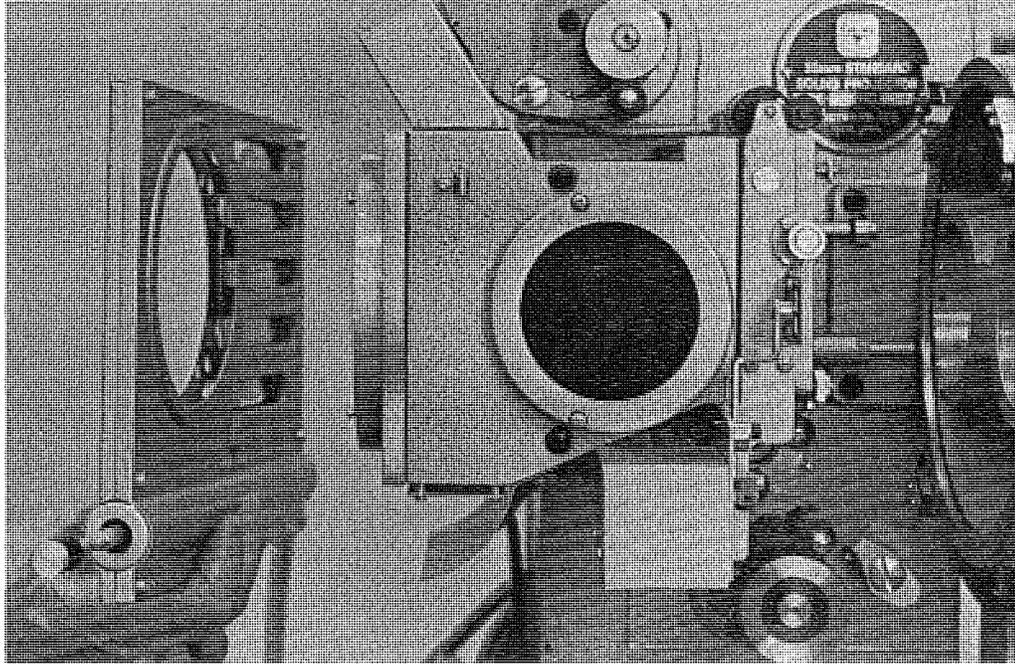

Fig. 1-1: Mounting the Electric Changeover Dowser
- Fig. 1-1:** MOUNTING THE ELECTRICAL CHANGE OVER POWER
- 1.1 Prior to mounting the projector onto the console or pedestal, the Electric Changeover Dowser (TSR-KG) should be mounted onto the rear of the Shutter Housing Assembly (TSR-A-10, A-15, etc.) using the four screws provided. When using the alternate Short Shutter Housing Assembly (TSR-A-10A) the Changeover Dowser is secured with only two mounting screws. Orient the Changeover so that the manual dowser handle is on the bottom, facing the operating side of the projector, as shown in Fig. 1-1.